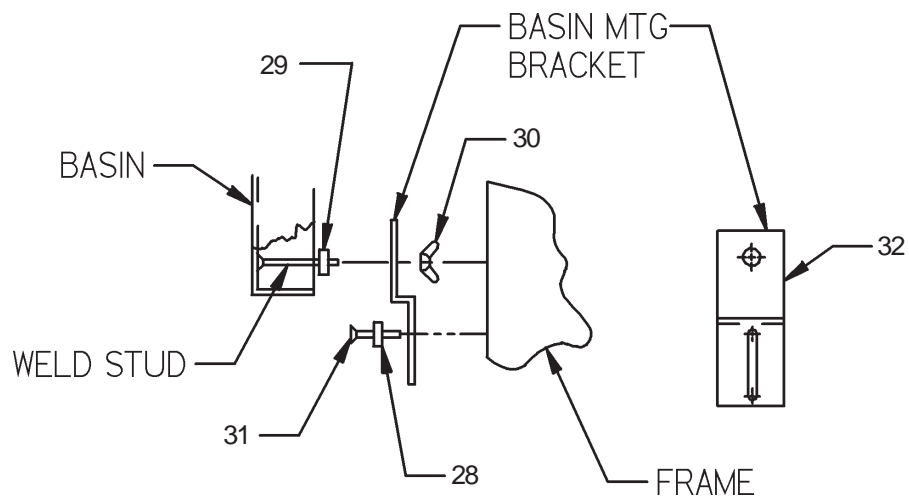

FIG. 8
4. Attach basin mounting brackets to basin studs located in the lower corners with the two (2) provided wing nuts. Tighten securely. (See Fig. 8)
5. Install basin. Place the upper edge of basin above the hangers in the wall frame. Slide the basin down until it is engaged before releasing it. Secure basin with the provided two (2) #8 x 3/4" tap screws and two (2) 11/64" ID washers. (See Figs. 8 & 9)